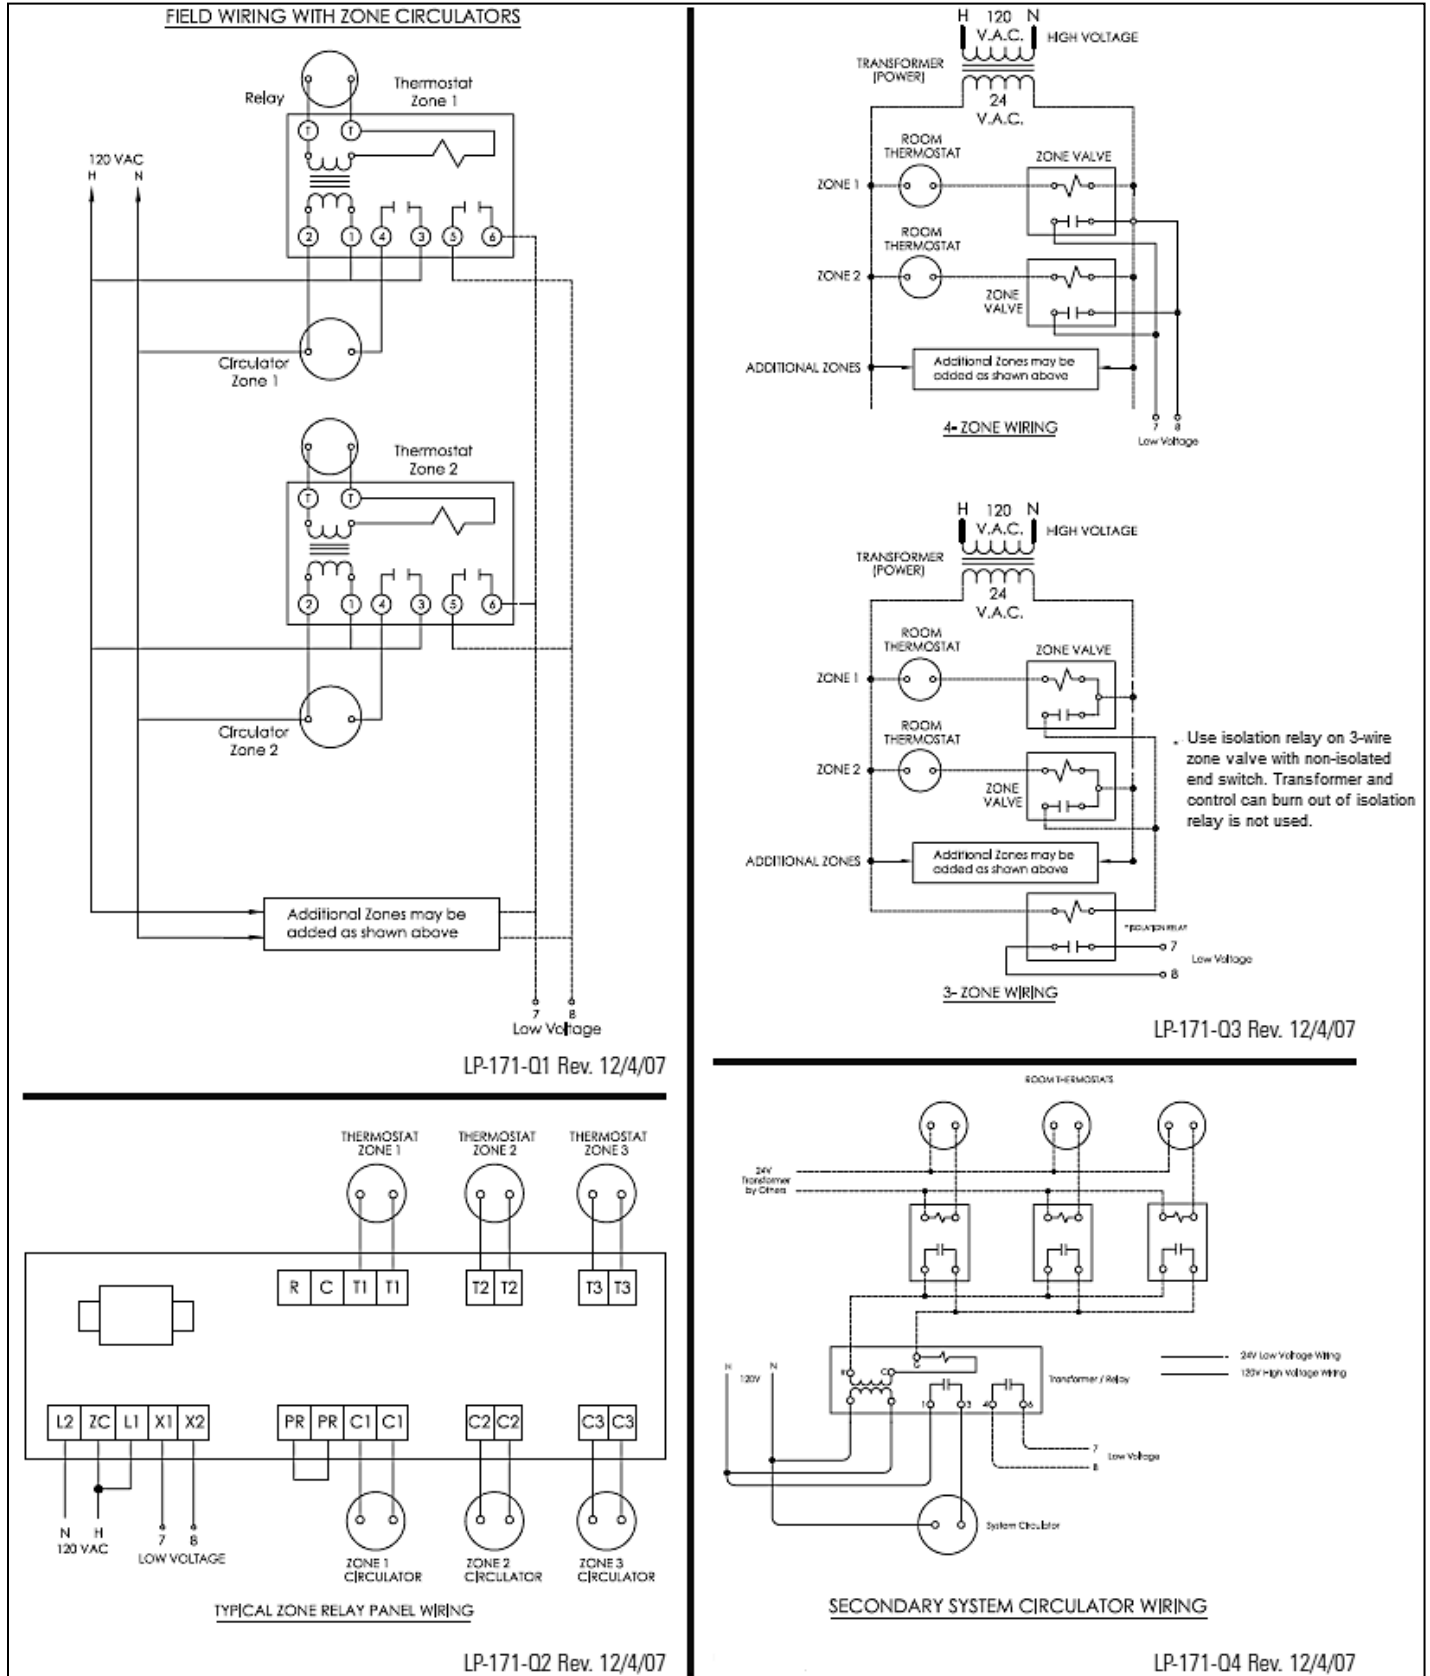

Figure 31
1. Take the 5/16" flexible clear tube (rated for maximum temperature of 120°F) provided with the heater and place it over the barbed nipple on the manual air vent as shown in Fig. 31.
3. Turn the manual air vent to the open position as shown in Fig. 31. Air and water should drain freely from the system.
9. While the pump is running as described above, open the manual air vent on the front of the heat exchanger as shown in Fig. 31 to further assist in removing air from the system.
10. When all air is removed and water runs freely from the end of the hose, return air vent to the closed position shown in Fig. 31. Cut the tie wrap and remove the tube. Please make sure warning tag is left in place. Stop the pump from running by pressing **[S1]** and **[S2]** together.